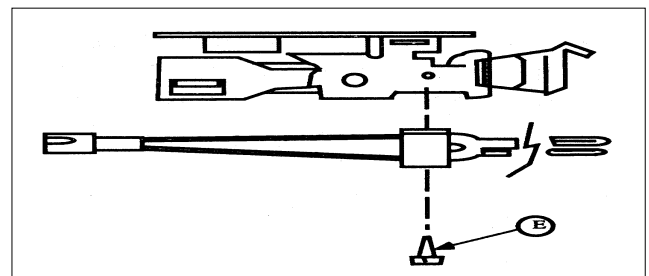

Figure 4-4
Remove screw (E) holding broken glo-bar to burner and replace glo-bar (see Figure 4-4).